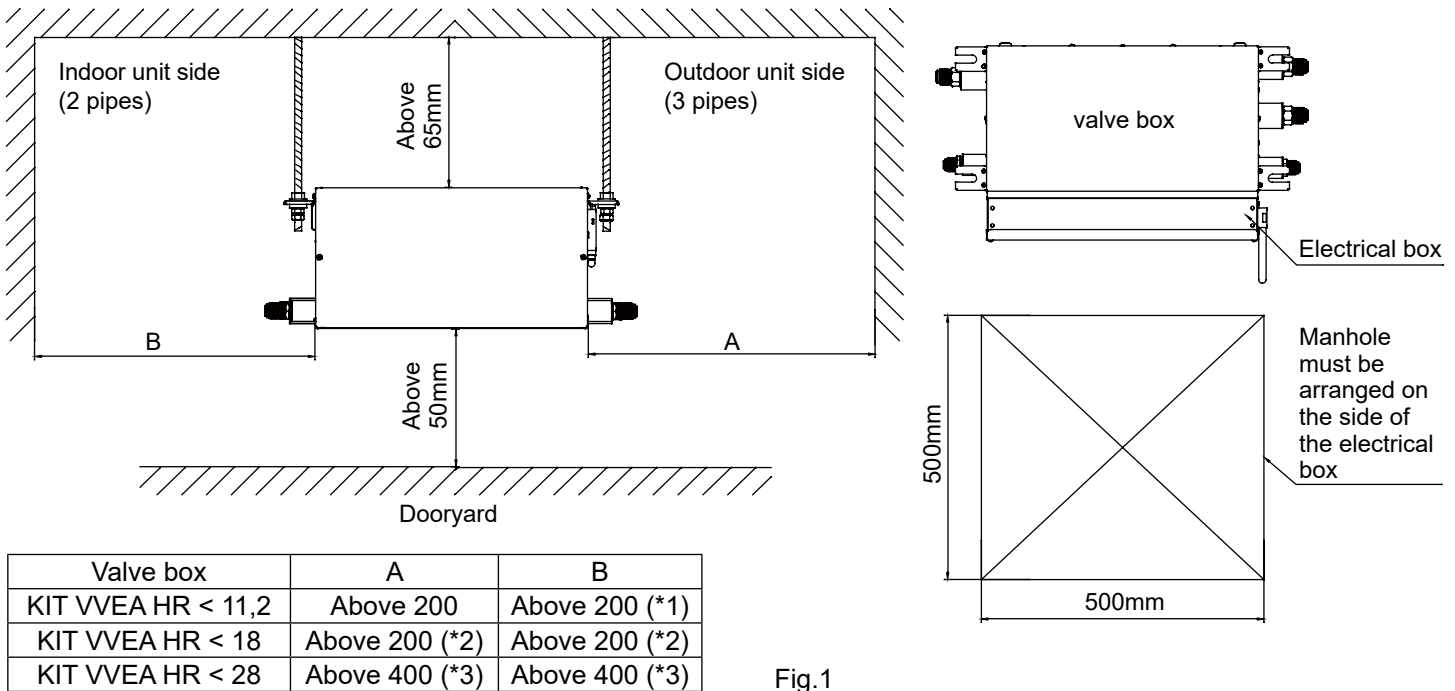
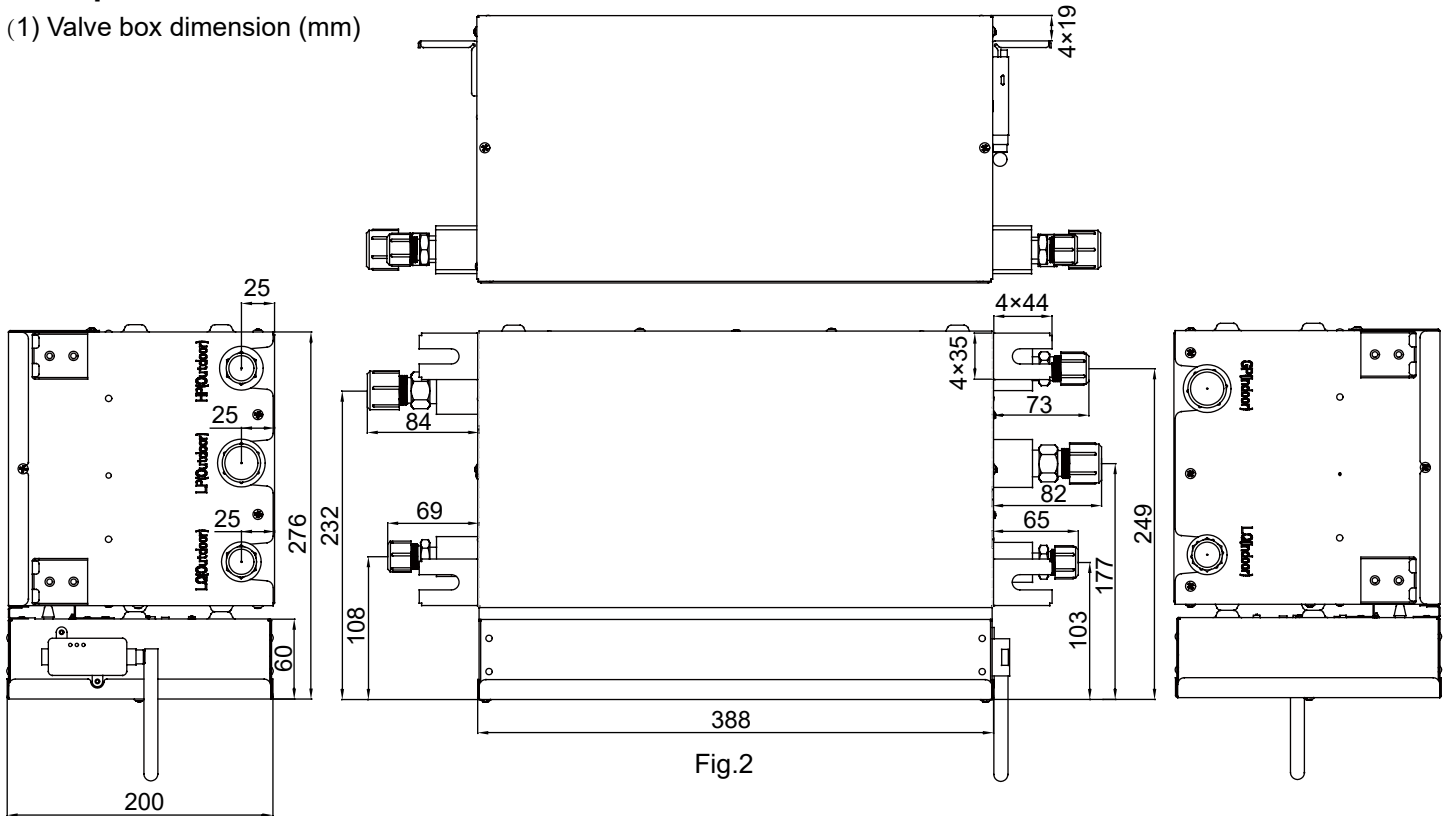

Fig.1
Fig.2
- Ensure that there is enough space for installation and maintenance as show in Fig.1
See the Fig.1 & Fig.2 to install the lifting bolts and hoisting tools.
- (1) Change the installation direction of electric box according to requirements following the steps below; (see Fig.1)
- ① Remove the cover of the electrical appliance box; (2 screws)
- ② Remove the electrical appliance box; (4 screws)
- ③ Remove the top plate; (4 screws)
- ④ Change the outgoing direction of wiring (electronic expansion valve coil) between the equipment and the electrical appliance box;
- ⑤ Rotate 180° to install the top plate;
- ⑥ Install the electrical appliance box;
- ⑦ Install the cover of the electrical appliance box.